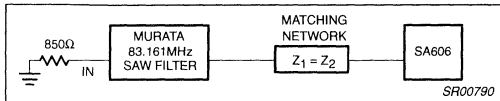

Figure 8. Impedance Matching from SAW Filter to SA606
- After a conjugate match between  $Z_1$  and  $Z_2$  has been achieved, connect the output of the SAW filter to the matching network. (Figure 8)